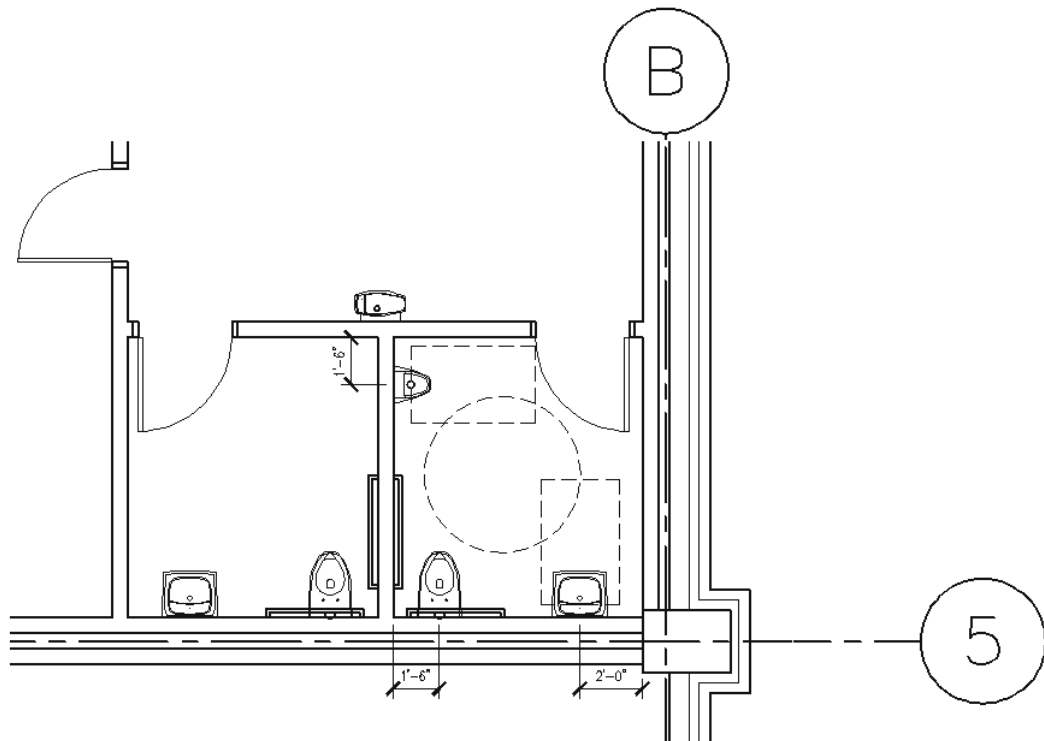

FIGURE 4-1.5 Place the fixtures shown (do not draw the dashed lines)
14. Add the plumbing fixtures as shown in Figure 4-1.5, *plus*:
The dashed lines shown in Figure 4-1.5 represent the clear floor space that must be considered when designing the layout of a toilet room. This tutorial will not get into the specifics related to the clear floor space at each fixture type; but you may want to consider creating a special layer to place this information on so it can be turned off when not needed.